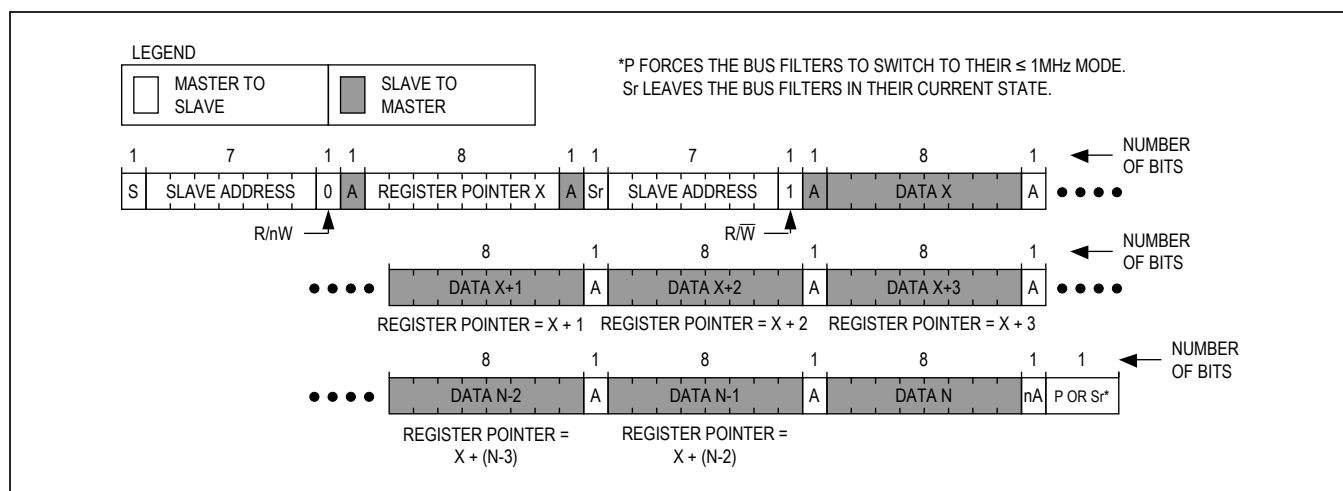

Figure 10. Reading Continuously from Sequential Registers "X" to "N"
Figure 10 shows the protocol for reading from sequential registers. This protocol is similar to the read byte protocol except the master issues an ACKNOWLEDGE (A) to sig-